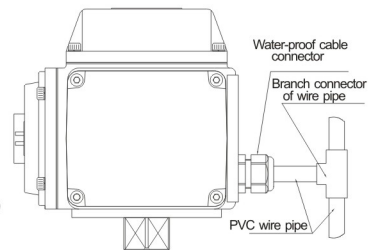
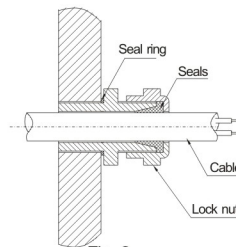

Fig. 1
Fig. 2
- When the pipe for wire is used, please install according to the requirement of Fig. 1.
- ① Outer diameter of wire pipe is $\Phi 9 \sim \Phi 11$.
- ② Waterproof shall be fully adopted.
- ③ The electric actuator shall be allocated higher than the pipe, so water in the pipe will not flow into the actuator to damage the unit.
- The outer diameter of the cable shall be $\Phi 9 - \Phi 11$, refer to Fig. 2. No cable, which is not fit to the inner diameter of cable connector, is allowed to use, in particular, the multi-single wire can not be used to replace the cable. Otherwise, water may enter into the actuator to corrupt the parts inside actuator and damage the insulation, and cause the actuator seriously damaged.